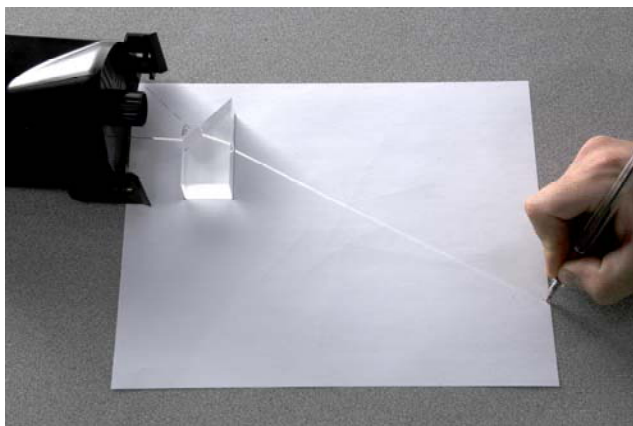

Figure 5: Marking the Paper
3. Follow the dispersed ray of light as far down the paper as possible without going off. At this point, carefully make a small mark where the blue light and red light reach the end of the paper. Similar to Figure 5.